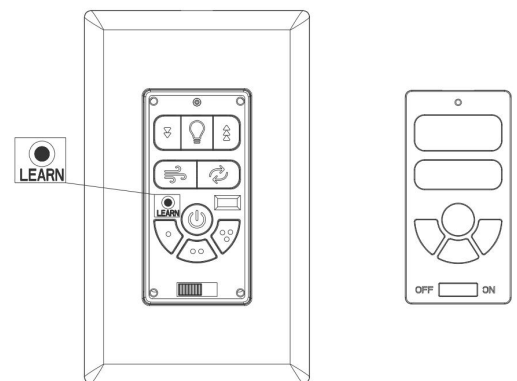

FIG. 4
- After installation is complete, AC power is turned on and  SWITCH is at ON position within 30 seconds, press and hold the **LEARN** button for 3 seconds. Fan will turn on at medium speed and light (if installed) will turn on. This confirms that the SMART SYNC setting is active and ok. (FIG. 4)